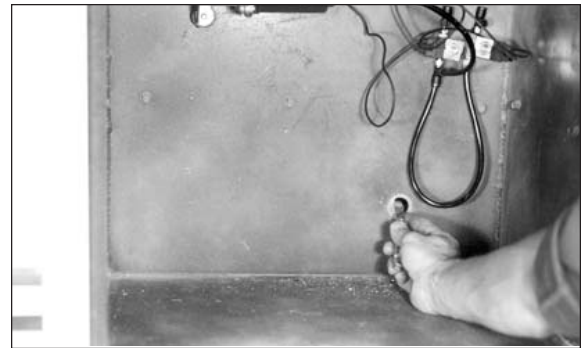

Figure 15
3. Cut off any excess grommet material (Figure 15).